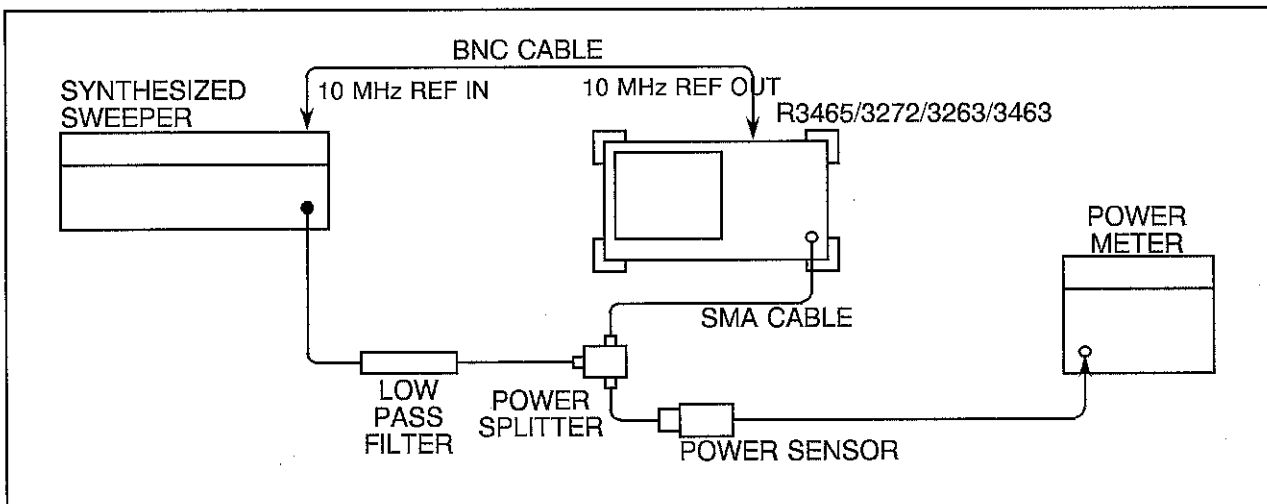

Figure 1-10 Second Harmonic Distortion Test Setup
- (1) Zero and calibrate the power meter. Rotate the CAL FACTOR switch to the power sensor's 1.4 GHz calibration factor.
- (2) Connect the equipment as shown in Figure 1-10.
- (3) Press the INSTR PRESET key on the SG1. Set the SG1 controls as follows:
(13) Connect the equipment as shown in Figure 1-10.
(14) Rotate the CAL FACTOR switch to the power sensor's 1.9 GHz calibration factor.
(15) Set the SG1  key for a 0 dBm  $\pm$  0.1 dB reading on the power meter.
(16) On the R3465/3272, press , , ,  and  keys.